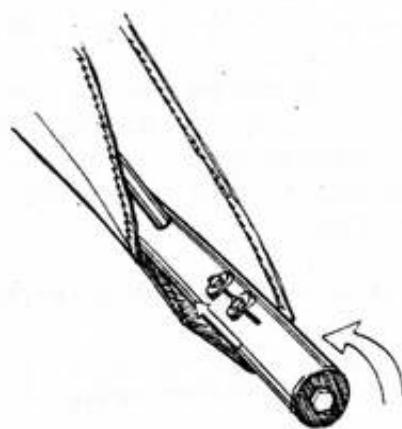

Fig.3
2.1.5. Rotate the bolt which is on the axle of the leading edge tube until the bolts d=6mm are positioned in the slot, closest to the nose of the wing. (Fig.3).